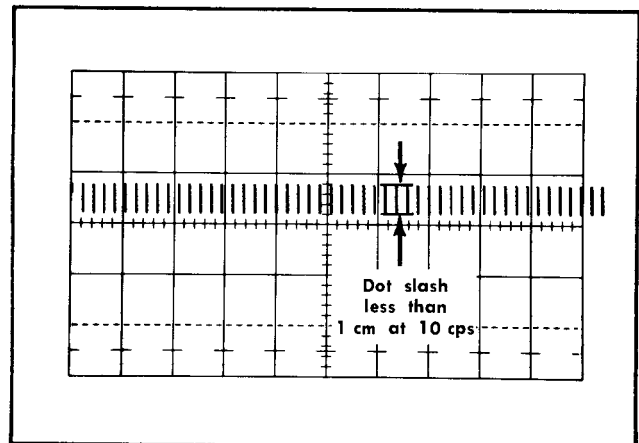

Fig. 5-51. Typical indicator oscilloscope display for checking memory drift. (Photograph is a timed exposure of a single sweep.)
- i. Check the trace for vertical drift (dot slash) of 1 cm or less (see Fig. 5-51).